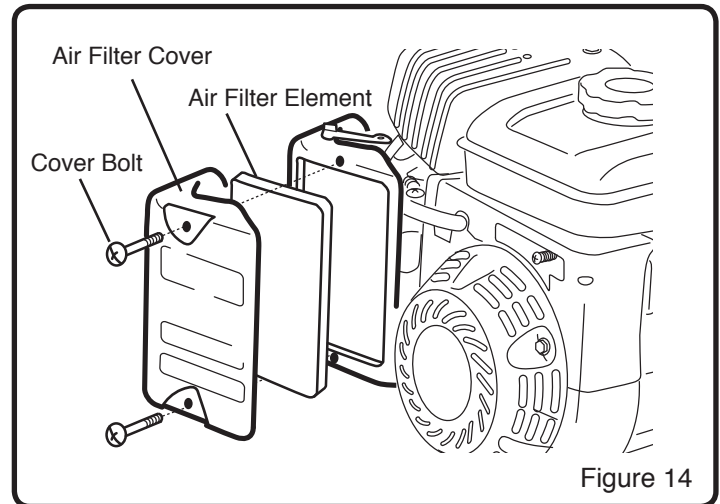

Figure 14
**NOTE:** Refer to Figure 14 when following the steps below: